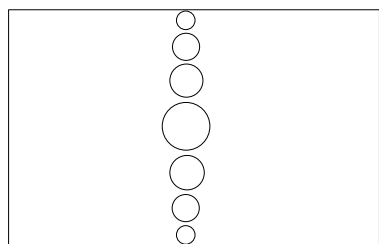

FIG. 2
- Vertical curtain lens (fig. 2)
**Screw for Anti-removal system - Fig.2**
Once the cable and wall attachment holes have been made, take the measurement to attach an anchor (3 mm) to the anti-removal system. (see above fig.1 and fig.2)